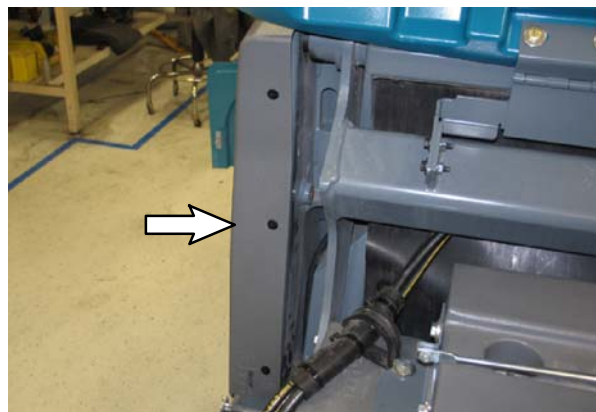

FIG. 30
36. Align the inside edge of the right lintel cover (74) with the inside edge of the right tower and use plugs (7) to further secure the right lintel cover to existing holes the right tower.
37. Mark and drill necessary 6.40 mm (0.25 in) holes through the existing holes in the right lintel cover (74) and through the right tower.
38. Use plugs (7) to finish securing the right lintel cover (74) to the machine. (Fig. 30)